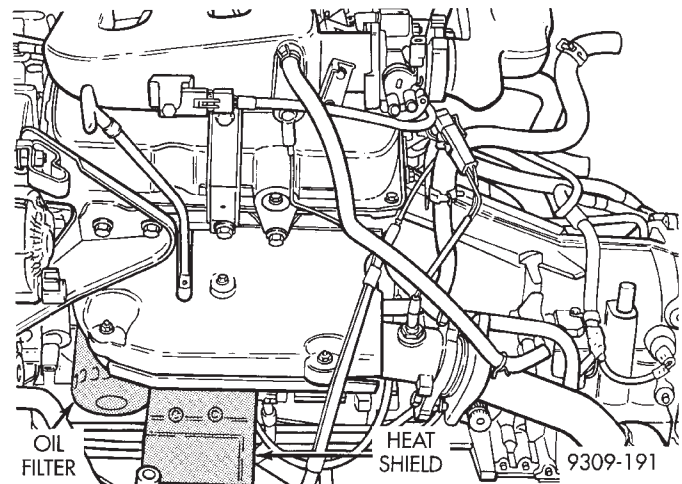

Fig. 87 Oil Filter
(1) Using Tool C-4065, unscrew filter from base and discard (Fig. 87).